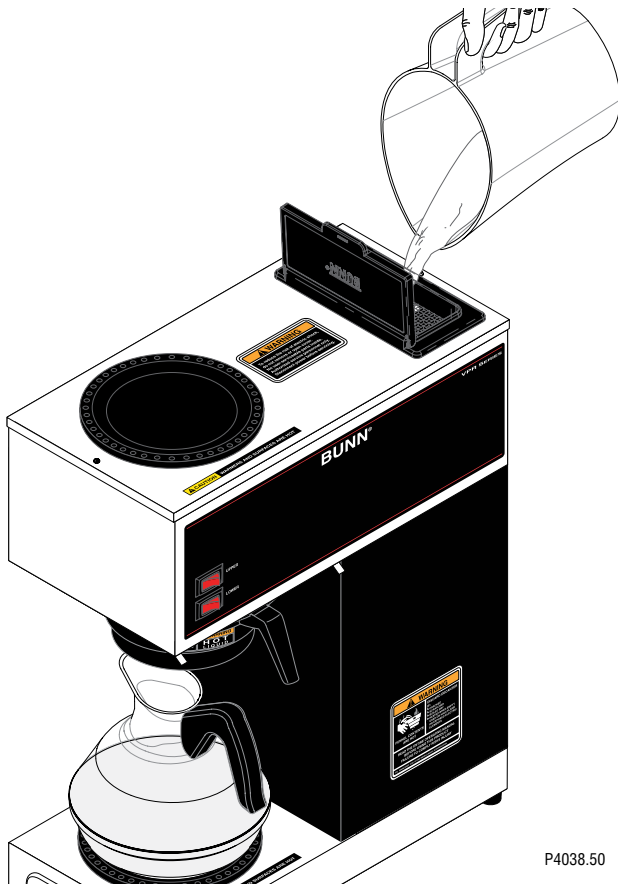

FIG. 1 POUR IN WATER ONLY
3. Open the flip lid on top of the brewer and pour in three pitchers of tap water. Allow approximately two minutes between pitchers for water to flow into the tank. While the third pitcher of water is entering the tank, the tank will fill to capacity and the excess will flow from the sprayhead, out of the funnel, and into the dispenser. FIG. 1
5. Open the flip lid on top of the brewer and pour in one pitcher of tap water. FIG. 1